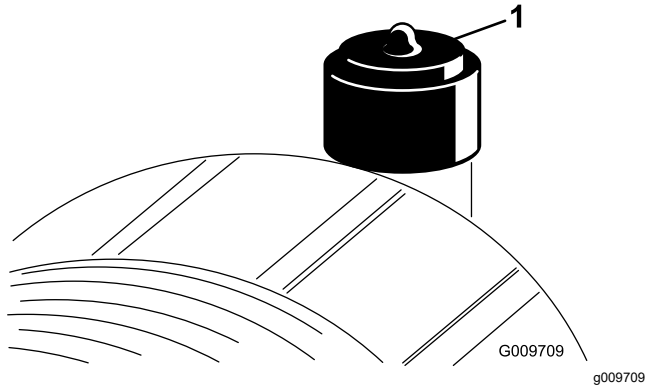

Figure 52
Service the air-cleaner filter only when the service indicator (Figure 52) requires it. Changing the air filter before it is necessary only increases the chance of dirt entering the engine when the filter is removed.
8. Reset the indicator (Figure 52) if it shows red.